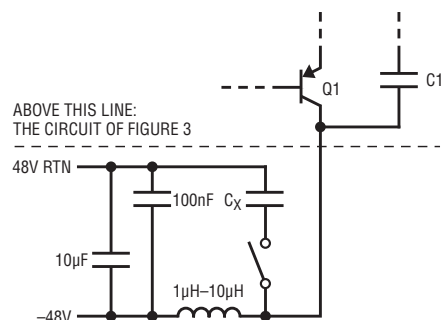

Figure 4. Attaching C_X to the circuit of Figure 3 for testing oscillator capacitance.
-48V bench supply (see Figure 4). To eliminate erratic readings caused by test lead inductance, bypass the -48V supply at the inductor. Measure the resulting frequency, f_1 . Now add a capacitor C_X of 1nF to 4.7nF to Q1's collector and measure the new frequency, f_2 . The two operating conditions are related by manipulating equation (1) to eliminate inductance. Thus